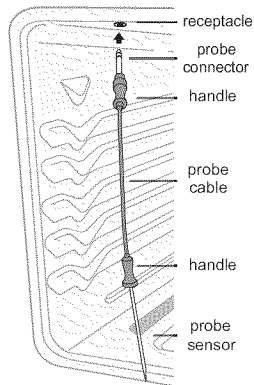

Figure 21: Probe receptacle location/insertion point
The probe receptacle is located at the top of the oven cavity as shown in Figure 21.
**CAUTION** Handle the meat probe carefully when inserting and removing from food or probe receptacle. Do not use kitchen utensils, such as tongs, to pull on meat probe cable when inserting or removing from food or receptacle. Use the provided handle, as shown in Figure 21. To avoid possibility of burns after cooking, carefully unplug meat probe using a pot holder to protect hands.